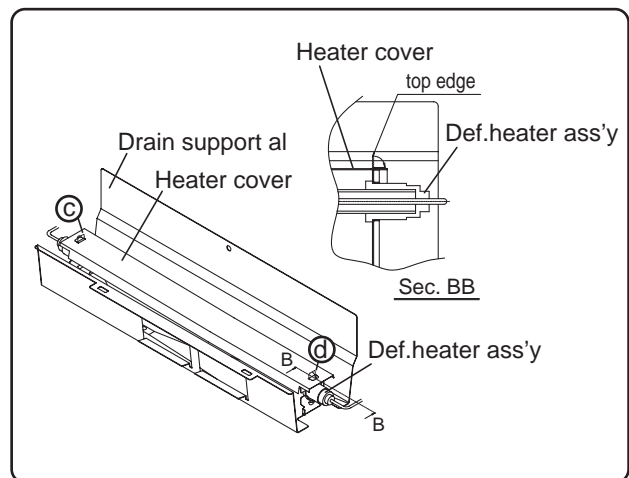

Fig. A-26
(2)-8. Set Heater cover on Drain support, and bend top edge (c) and (d) to outside as shown in Fig. A-26.